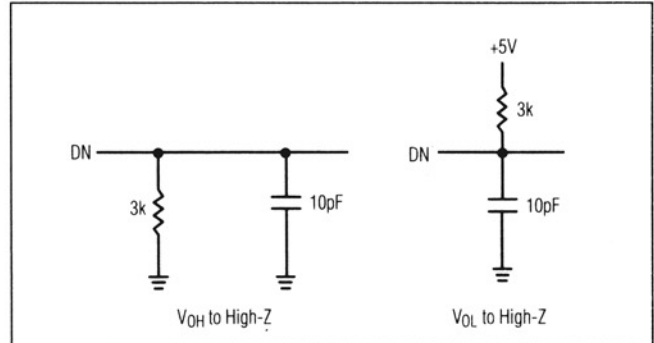

Figure 2. Load Circuits for Three-State Output Timing
- Note 5:** t_{TR} is the time required for the data lines to change 0.5V, measured with load circuits of Figure 2.